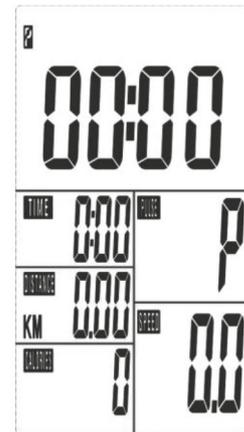

Fig. 2
*The main menu is now displayed (Fig. 2).*